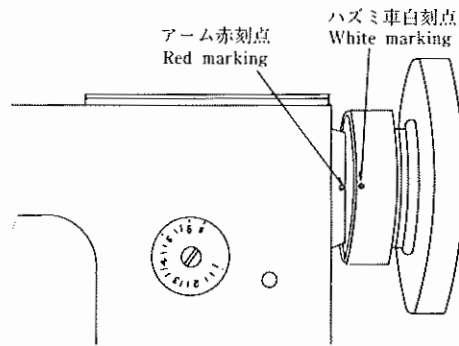

Fig 30
2. Align the thread trimming cam set screw No.1 as illustrated in the Figure 30 with the cam roller stud of the cam roller arm by turning the cam and fasten the screw No.1.